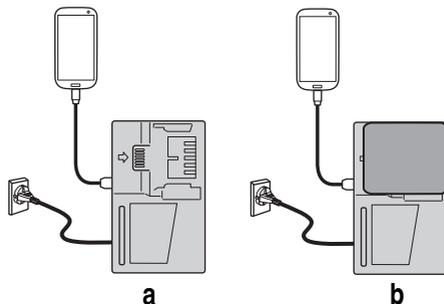

Fig. 2
- (1) Select a charging method
- Charging a USB device from a electrical outlet (**Fig. 2-a**)
- Charging a USB device and battery from a electrical outlet (**Fig. 2-b**)